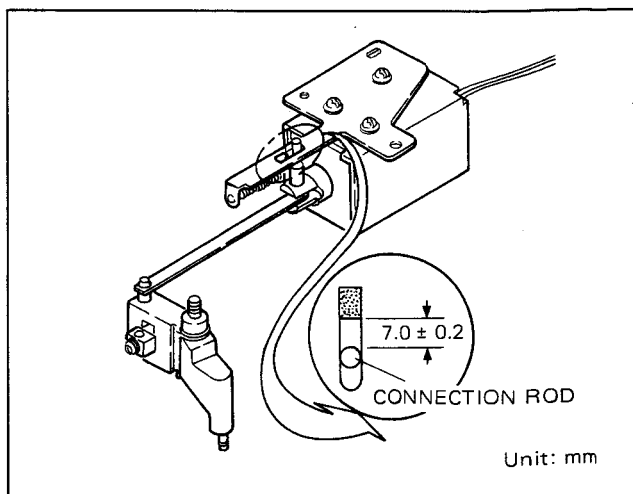

Fig. 3-55. Pinch Roller Solenoid Position Adjustment
4. As shown in Fig. 3-55, adjust the position of the pinch roller solenoid so that the clearance between the connection rod and the cushion becomes 7.0 ± 0.2 mm when the solenoid plunger is attracted. After the adjustment, tighten the three screws securely.